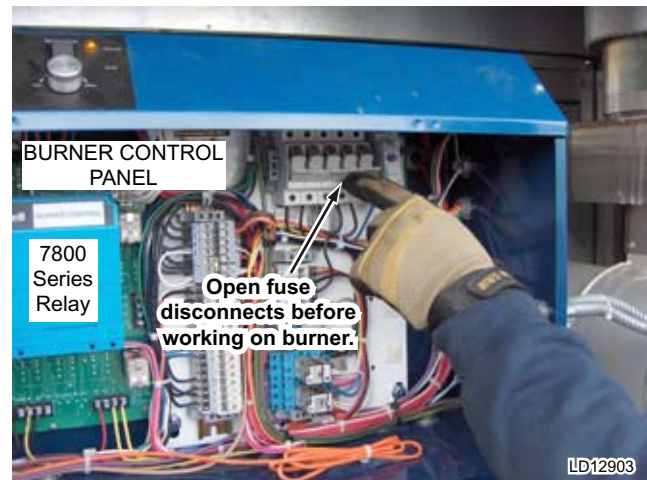

FIG. 3-13 – OPEN FUSE DISCONNECTS
1. Open fuse disconnects before working on burner (*see Fig. 3-13*).